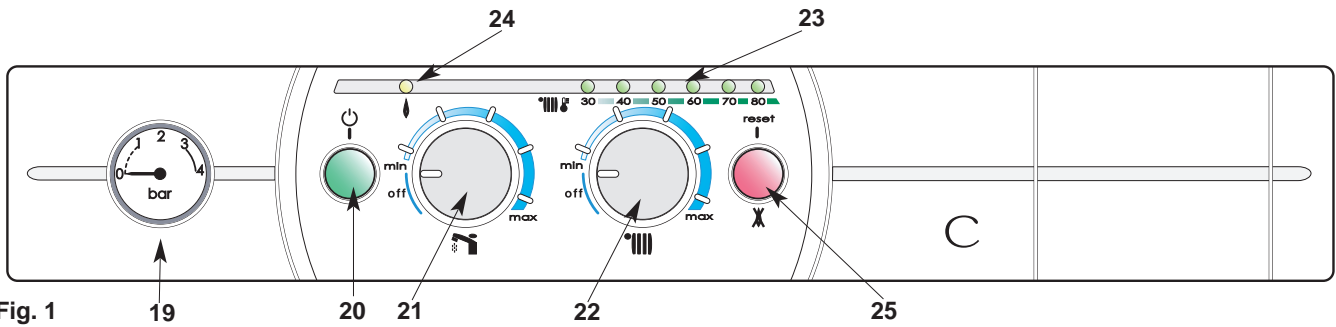

Fig. 1
Control panel (Fig. 1)
- turn the control knobs **21** and **22** to the «off » position (fully anti-clockwise), button **20** (Fig. 1) remains lit. The appliance remains in stand-by mode unless the anti-frost device is activated.
*Remember to re-open it at the start of the heating season, when you switch the heating back on by rotating button **22** (Fig. 1) or by turning the clock on.*
The boiler is fitted with a safety system which authorises operation of the burner. If this device does not detect movement in the flue the boiler will shut down for safety reasons, and indicators 40, 60 and 80 flash **23 (Fig. 1)**.